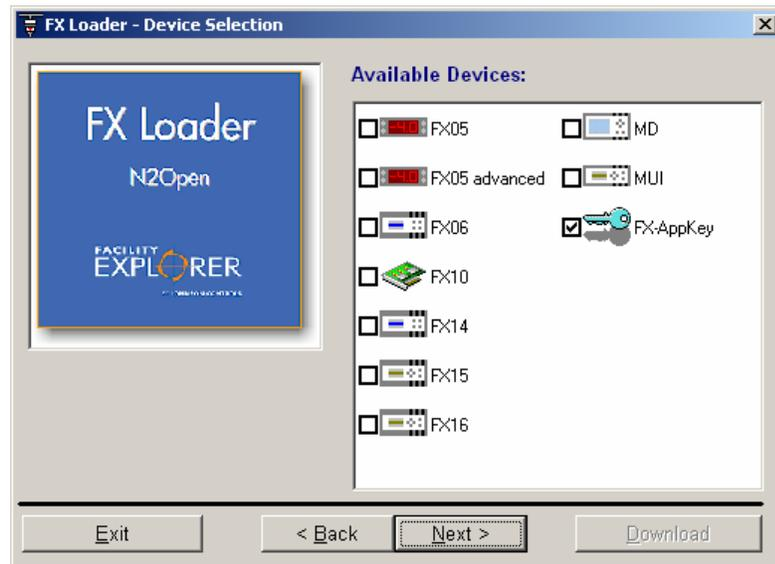

Figure 90: Loader-Device Selection Page
3. Select N2 Open and then select FX-AppKey (Figure 90).